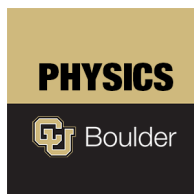

Figure 3: Test circuit to determine the MOSFET I-V curves.
1. Build the test circuit for the MOSFET shown in Figure 3. Make sure to attach a heat sink fin to the FET. (See notes of caution above.) You can use the 10-turn pot on the front panel of your board. The 10-turn pot allows finer control of the V_{GS} than the knobs on the DC power supply. You can measure the resistance between pairs of the three leads to make sure you have it wired correctly.